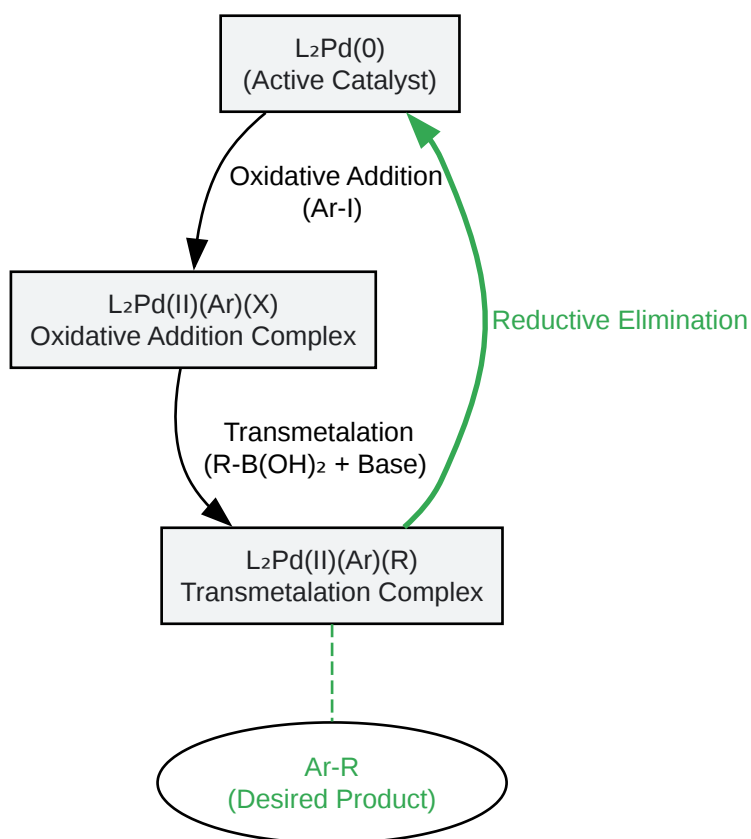

Fig 1. Simplified Pd(0)/Pd(II) Catalytic Cycle
Caption: Fig 1. Simplified Pd(0)/Pd(II) Catalytic Cycle